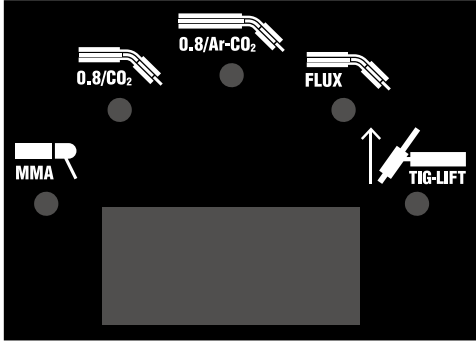

Fig. 7
8.1 Welding Type Selection Switch – Fig.7